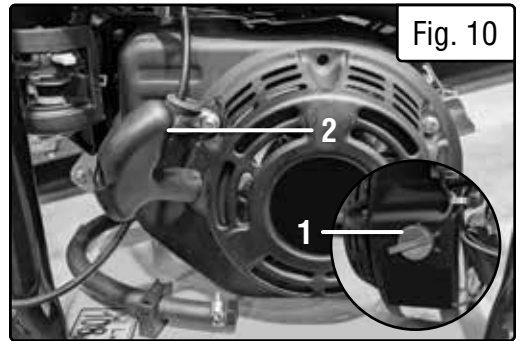

Fig. 10
5. Set the engine switch (Fig. 10 - 1) on the side of the recoil starter housing to the “ON” position.
7. Pull on the recoil starter handle (Fig. 10 - 2) slowly until a slight resistance is felt. Then pull quickly to start the engine. Return cord gently into the machine. Never allow the cord to snap back.